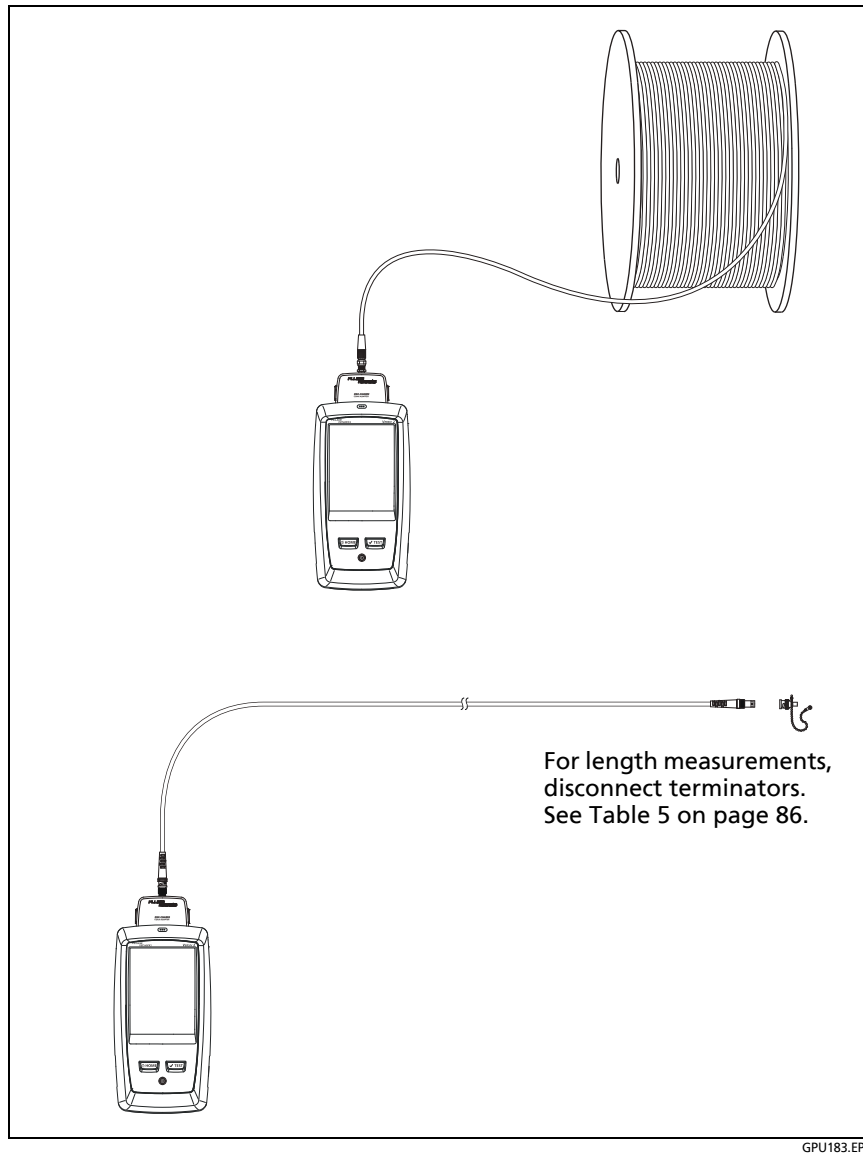

Figure 32. Connections for Coaxial Tests Without a Remote
- 3 Connect the tester as shown in Figure 32.